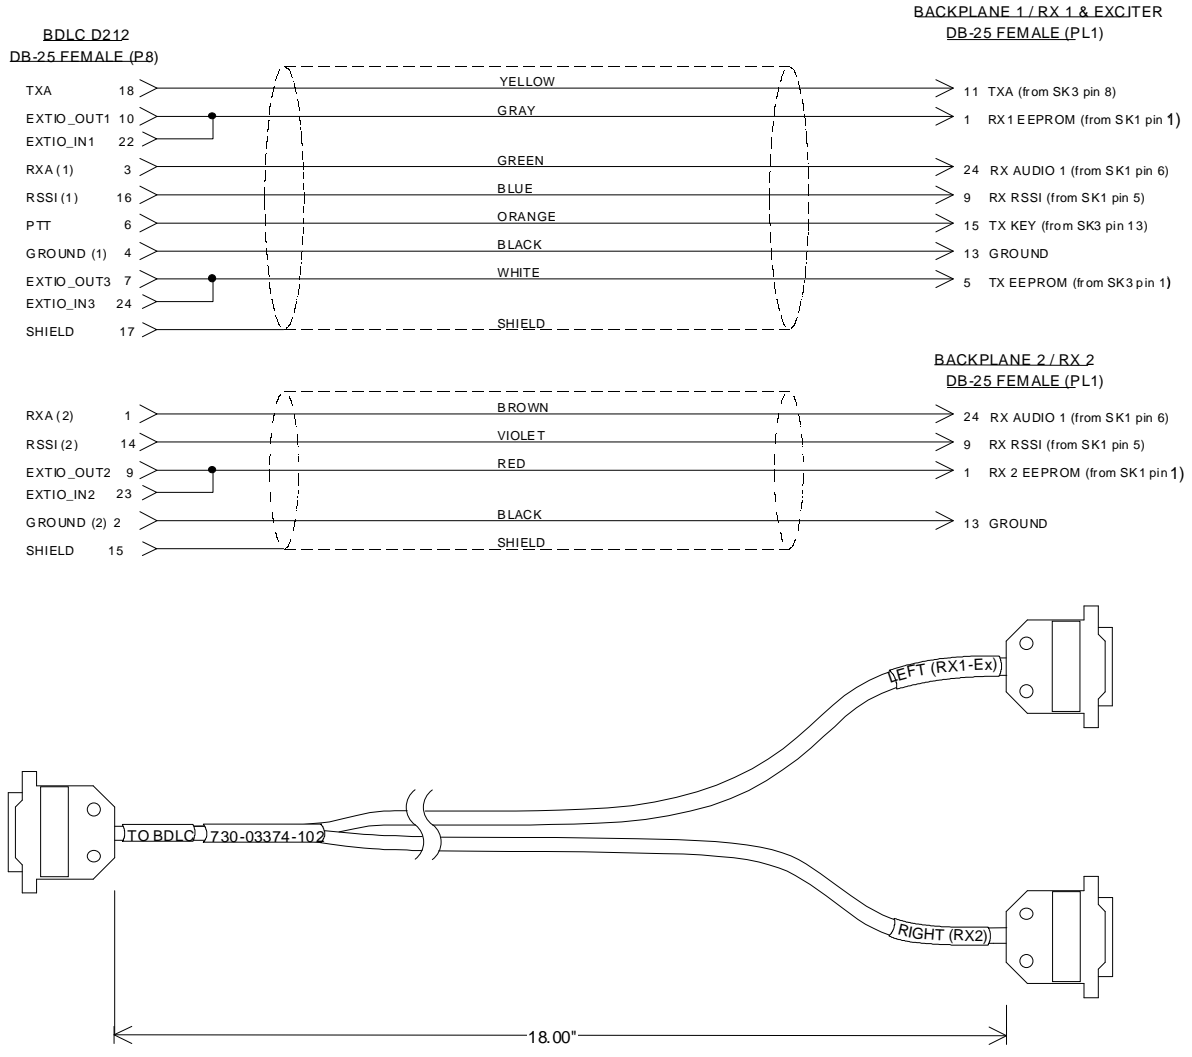

Figure 15 - BDL CPD+ Y cable and pinout
- EXT RADIO/TEST - connects to the Radio assembly through the radio interface cable (see Figure 15)